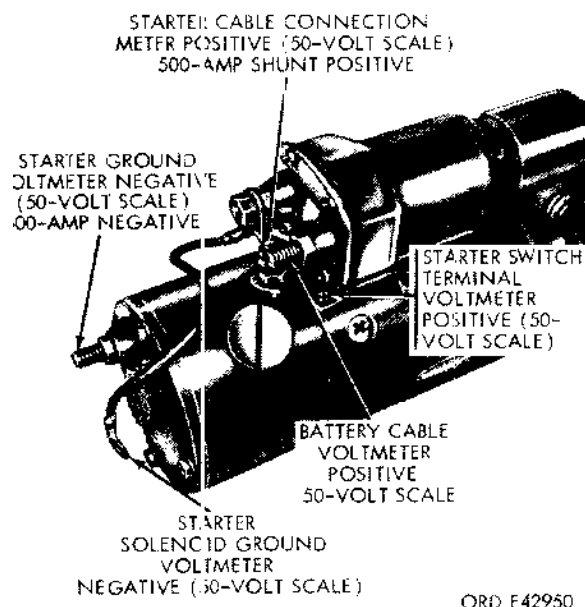

Figure 2-27. Starter solenoid—diesel and multifuel models.
(3) Disconnect the starter cable at the starter and connect the large positive external shunt lead to the cable. Refer to figure 2-27.
(4) Connect the large negative external shunt lead and the voltmeter positive (+) lead to the starter cable post on the starter. Refer to figure 2-27.